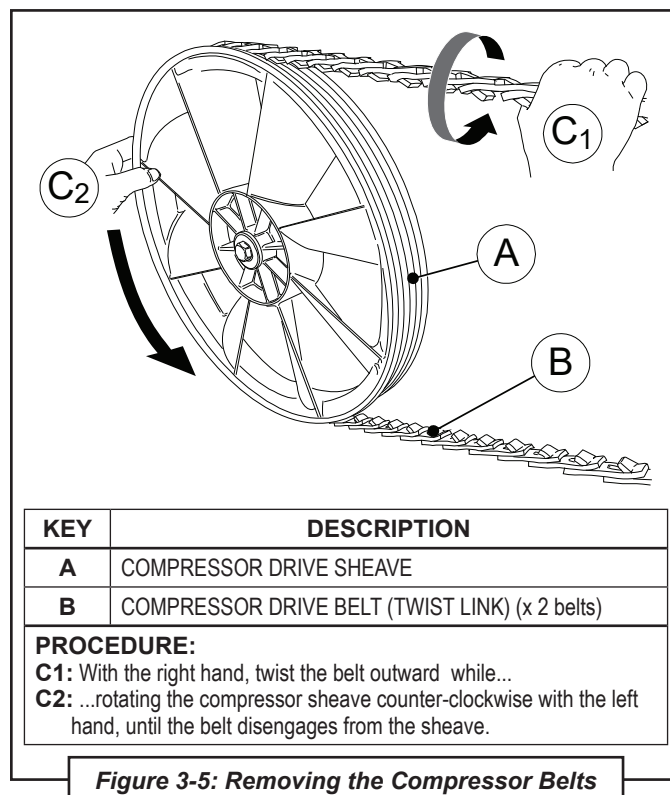

Figure 3-5: Removing the Compressor Belts
3. In order to remove a link or replace a belt, the belt has to be removed from the pulleys. Refer to **Figure 3-5**: For belt removal, grip the outer belt with the right hand (perform procedure on one belt at a time).